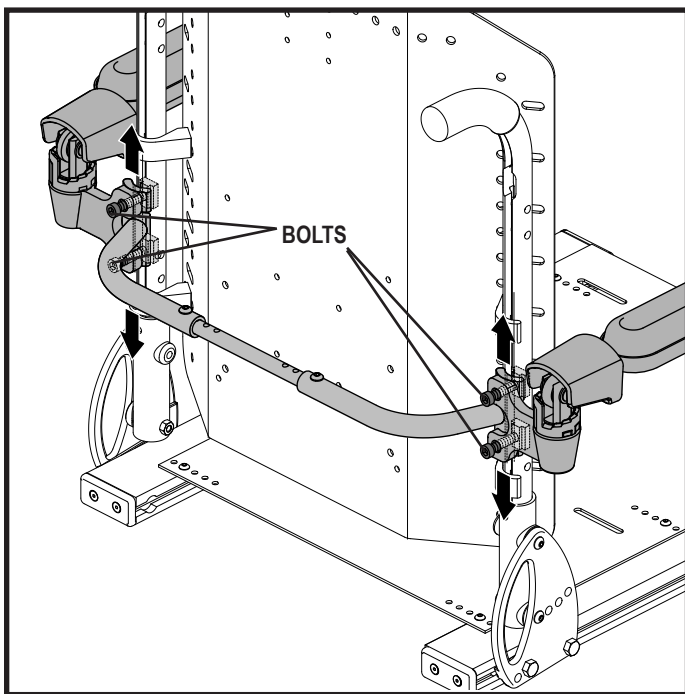

Figure 17. Height Adjustment for Cantilever Armrests Attached to the Push Bar
1. Loosen the two bolts on each armrest bracket. **See figure 17.**